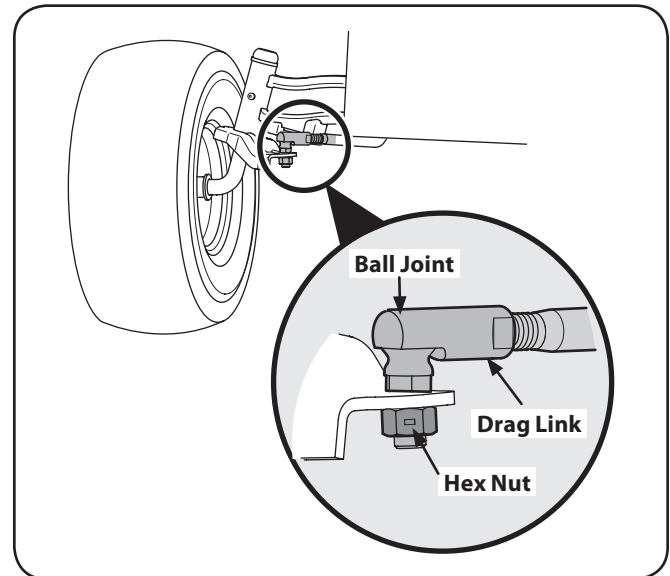

Figure 6-6
1. Remove the hex nut below the of ball joint. See Fig. 6-6.